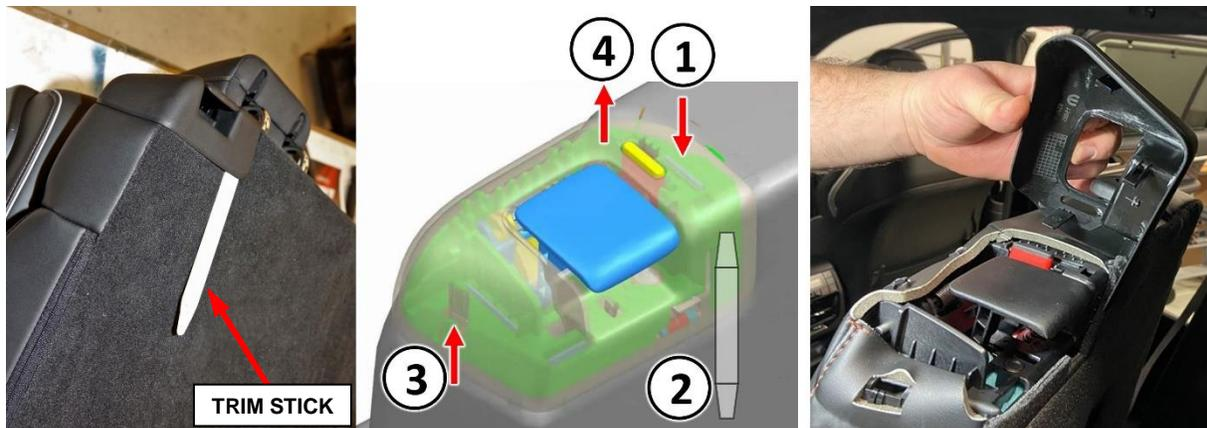

Figure 23 – Armrest Tray
20. Release the two upper retainers then remove the armrest tray (Figure 23).